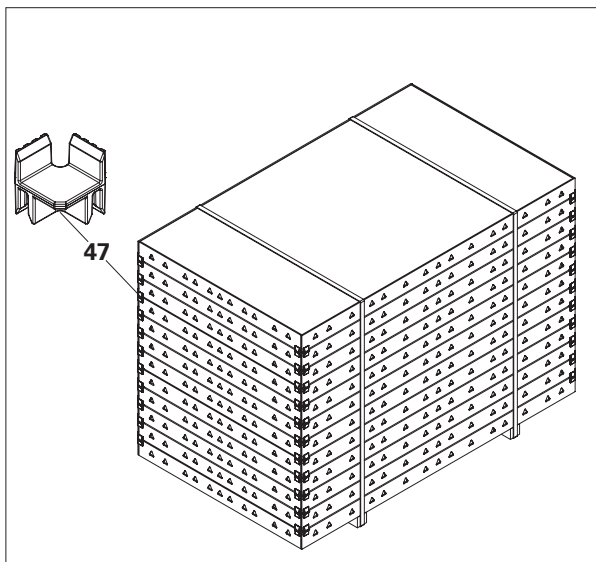

Fig. A2.01
Store and transport panels of the same size in one stack! (Fig. A2.01)
Use Stacking Aid HSA (47) in order to protect the panels. (Fig. A2.01)